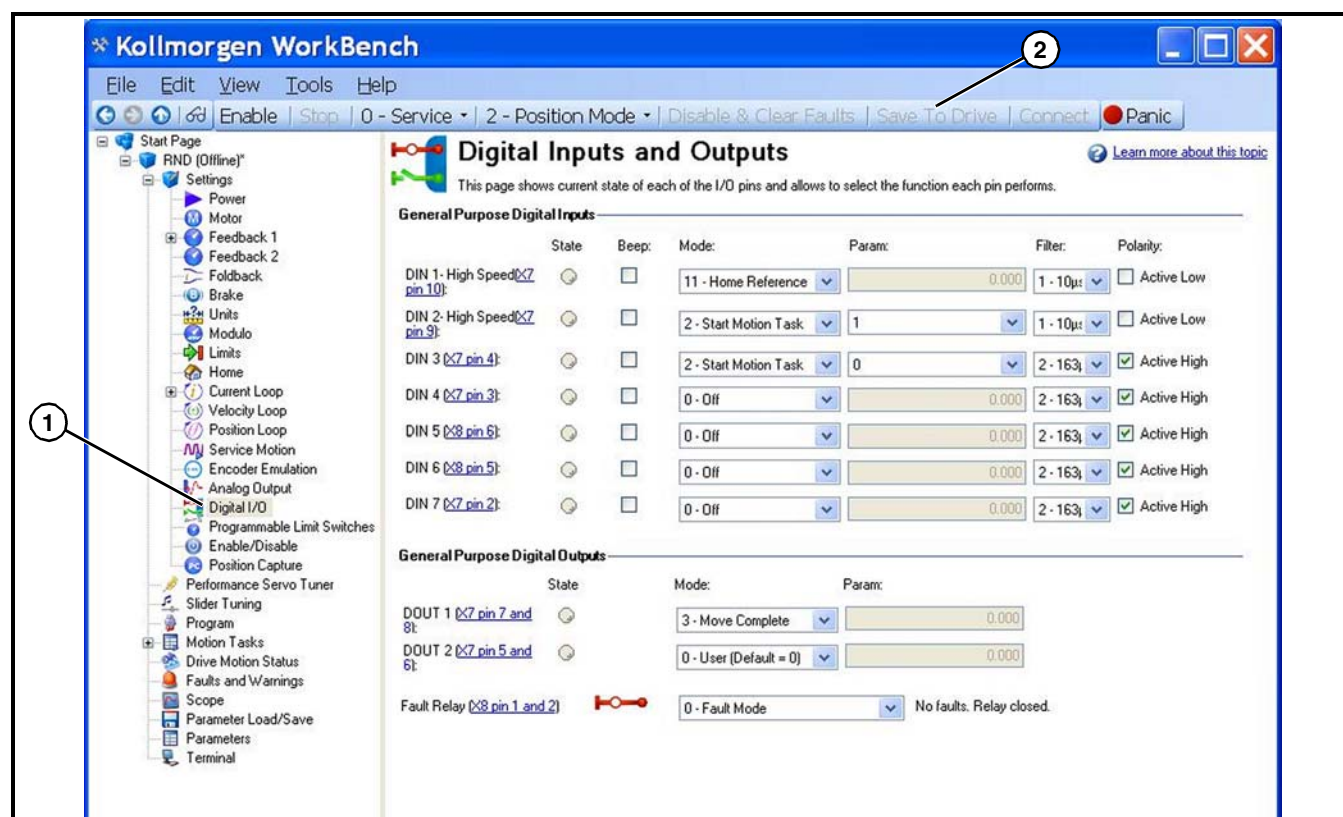

Figure 45
1. Click on **Digital I/O** (Figure 45, item 1).
5. Click **Save To Drive** (Figure 45, item 2).